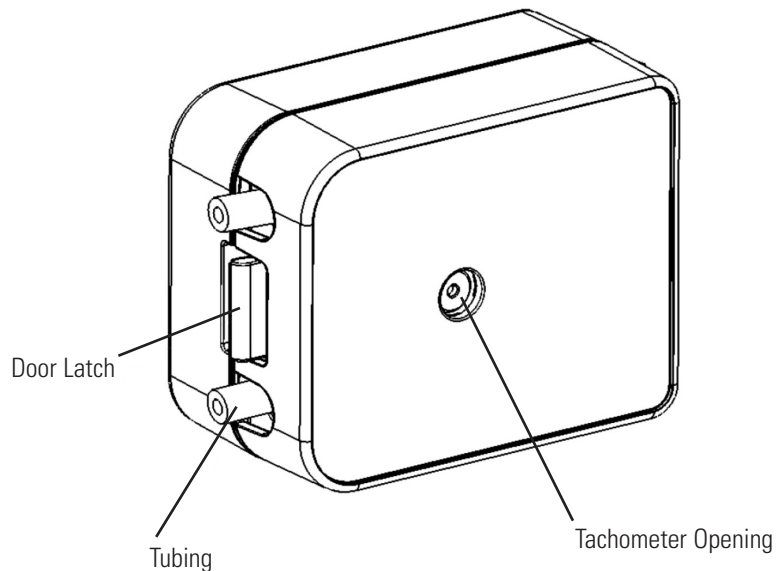

Figure 2-2. MASTERFLEX L/S High-Performance Pump Head
1. Lift Door Latch to open, Figure 2-2, Occlusion bed will retract as the door is opened.